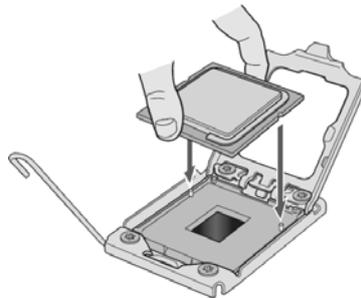

Figure 16. Install the processor
9. Orient the processor with the socket so the processor cutouts match the two socket pins and then sit the processor into the socket as shown in Figure 16.